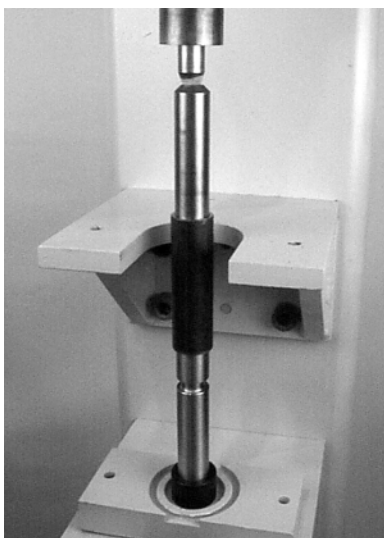

Figure 31
5. Using arbor press or similar device, press bearing onto pulley shaft (see Figure 31).